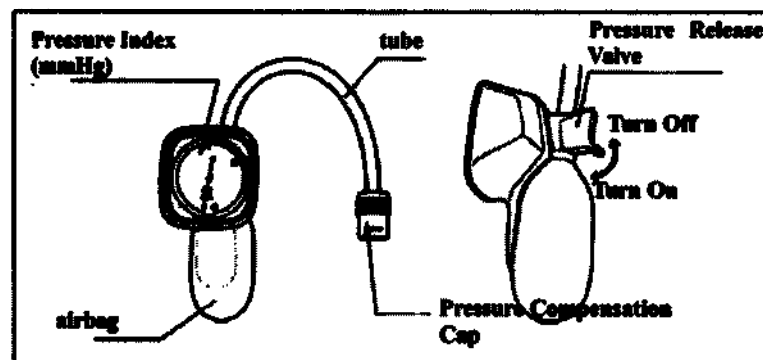

Fig 7.4
During endoscopy leak testing, connect the cap of leakage detector with the leak valve connector of the endoscope handle and press the airbag to check for leakage .(Fig7.4)
Make sure that is without scratches, flaws and debris. (See Fig7.4)
1. Make sure that the leakage detector is without cracks, scratches, flaws, debris and/or other damage. (See Fig 7.4)